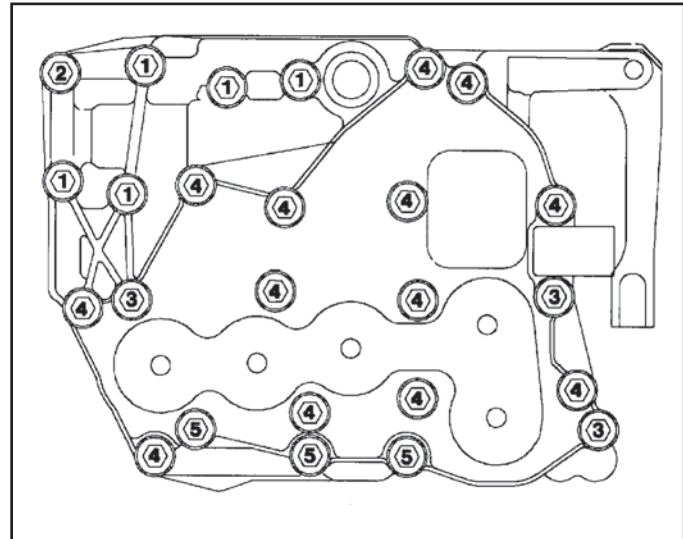

Figure 185
21. Before the valve body halves can be assembled, carefully select the proper length bolts using Figure 185 and the chart below.